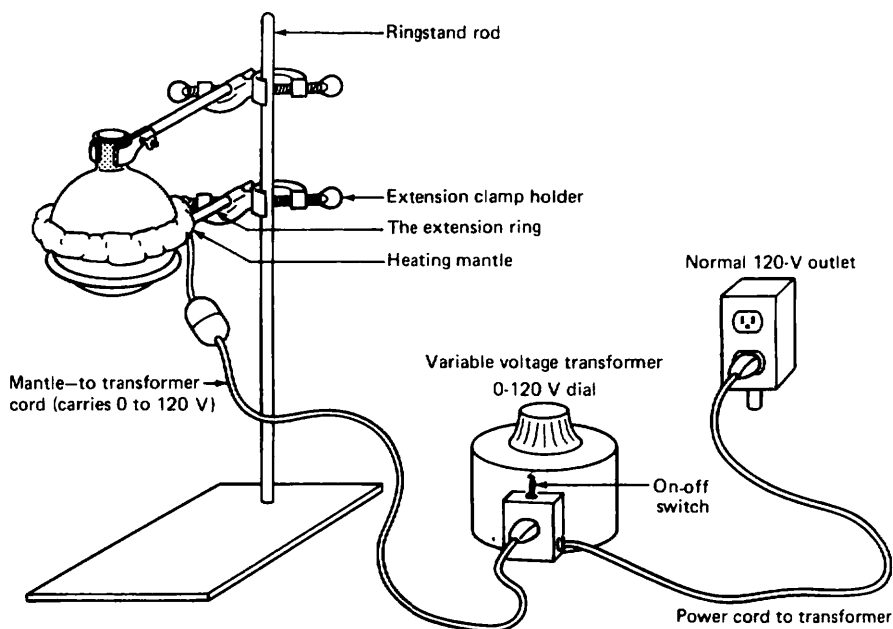

Fig. 83 Round-bottom flask and mantle ready to go.
2. **Traditional fiberglass heating mantle.** An electric heater wrapped in fiberglass insulation and cloth that looks vaguely like a catcher's mitt (Fig. 83).
Hint. When you set up a heating mantle to heat any flask, usually for **distillation** or **reflux**, put the mantle on an iron ring and keep it clamped a few inches above the desktop (Fig. 83). Then clamp the flask *at the neck*, in case you have to remove the heat quickly. You can just unscrew the lower clamp and drop the mantle and iron ring.